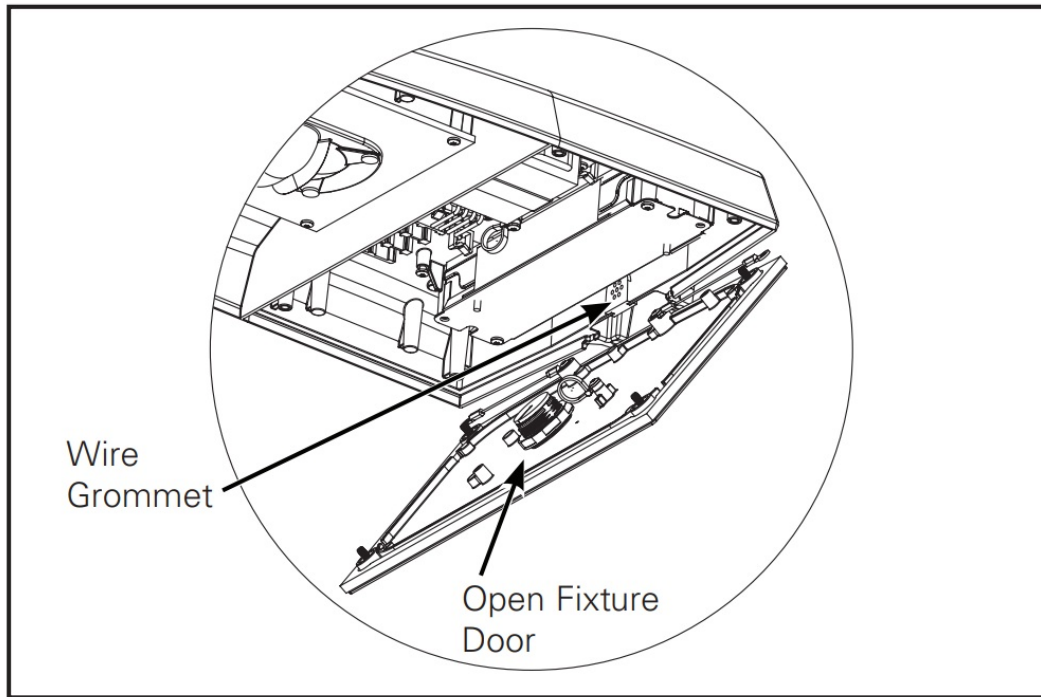
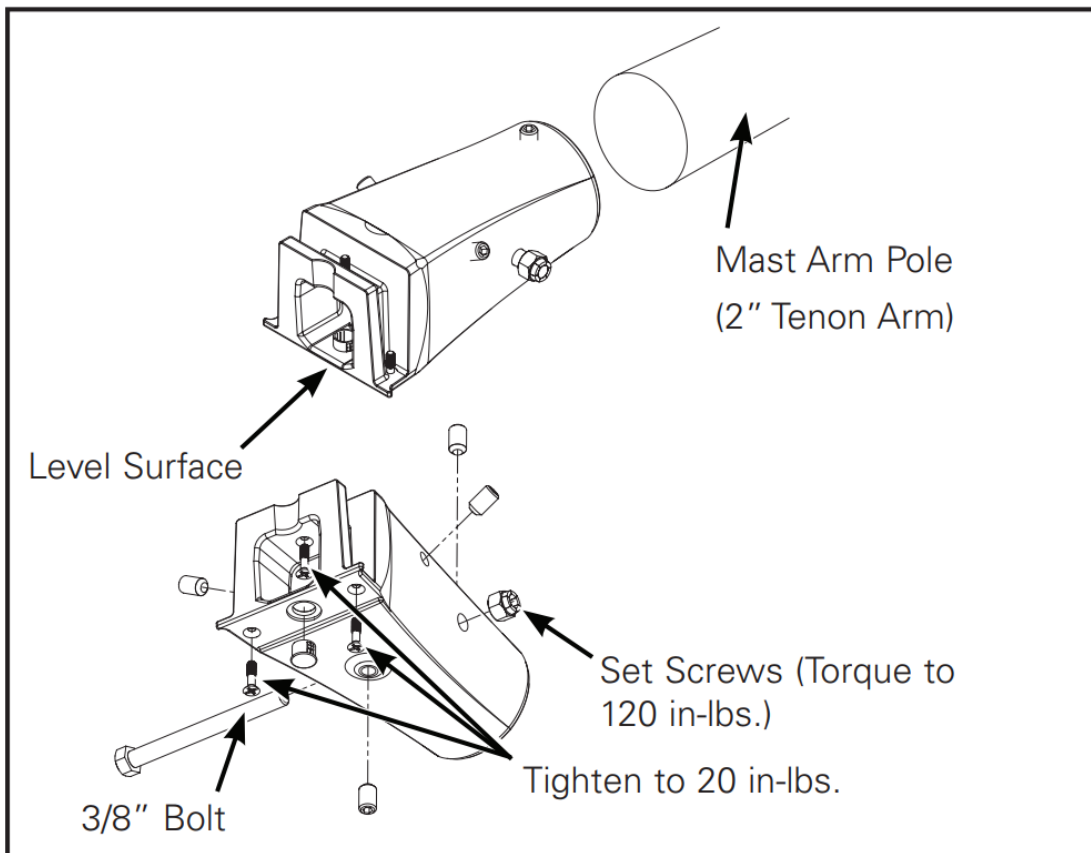

Figure 8.
Figure 7.
Mast Arm Mount (Figure 7. and Figure 8.)
2. Secure the mast arm adapter to the mast arm with the (4) 3/8-16 x 3/8" set screws. Level the mast arm adapter while tightening the set screws. Torque to 120 in-lbs.
4. Open fixture door by loosening the (4) Phillips head screws (or thumb screws if supplied) on the door. (Figure 8.)
5. Remove wire grommet for fixture wires at the back of the fixture. (Figure 8.)
6. Fold fixture wires and mast arm adapter wires out of the way and slide fixture on to the mast arm adapter. Tighten the three phillips head screws to 20 in-lbs. (2.3 N-M), and install the plastic plug over the center screw. (Figure 7.)